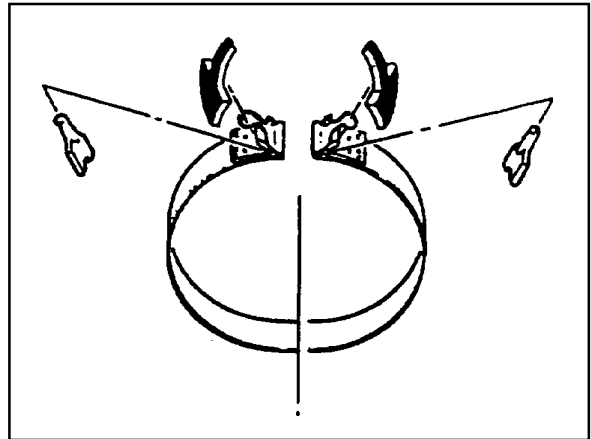

Figure 8.23 - Front Band Strut Installation
3. Position the strut retainers on the band (refer to figure 8.23).